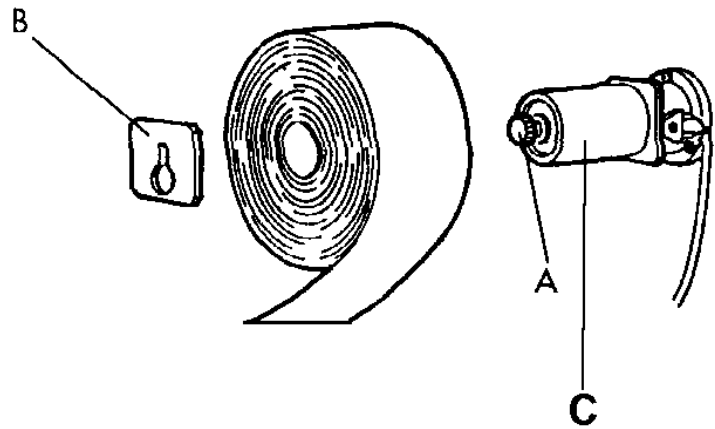

Figure 4 - Paper roll support
2. unscrew the black knob **A** (Figure 4) but do not remove it.